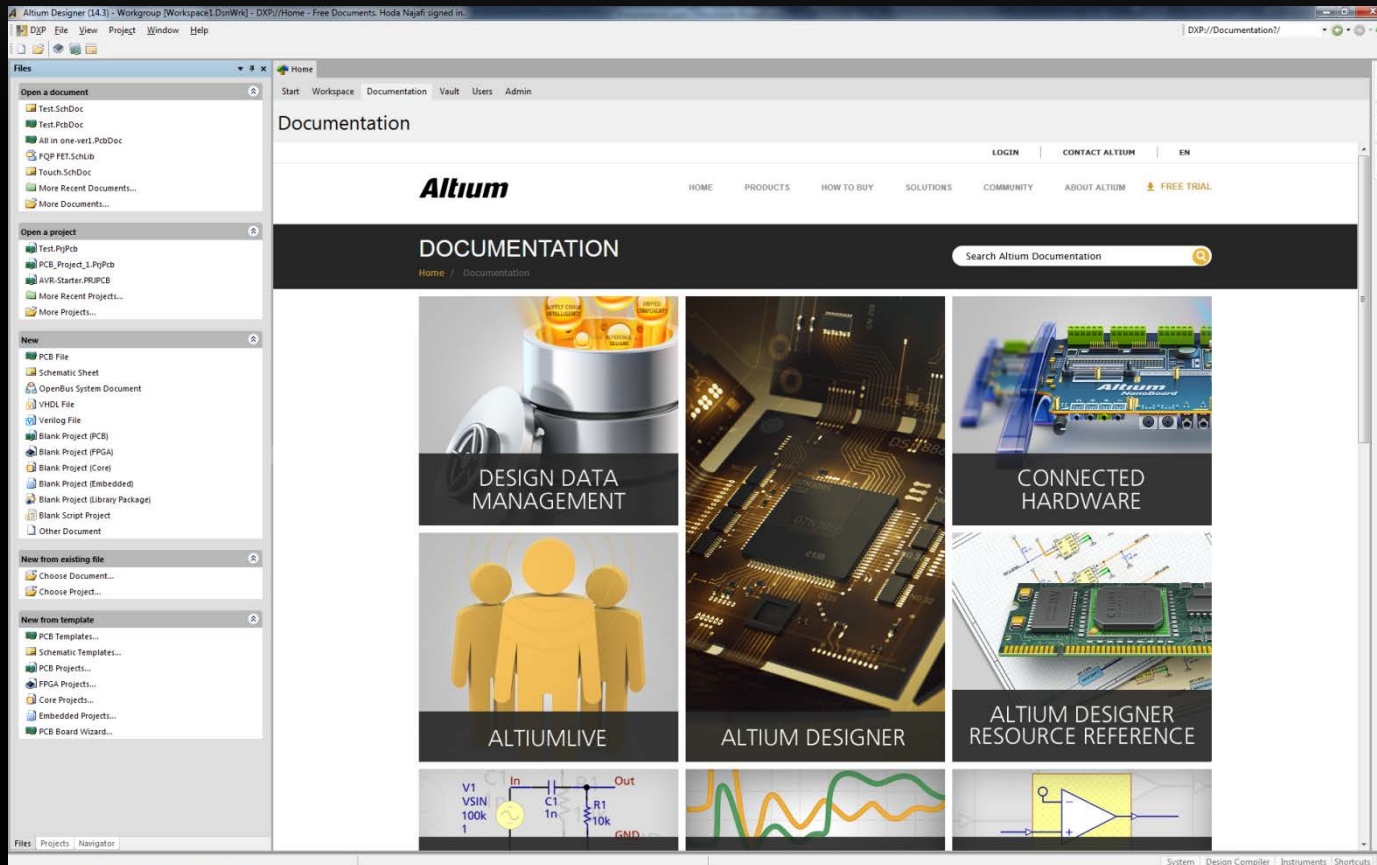

Figure 1
- Start the Altium Designer Software. (Figure 1)